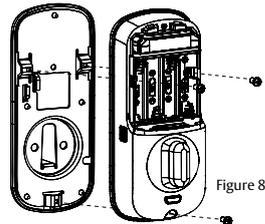

Figure 8
8. Install and secure using (3) M4 x 8mm pan head screws through the inside escutcheon into the mounting plate (Fig. 8).
9. Insert four (4) AA alkaline batteries. The lock responds with a series of beeps, and a quick flash of all keypad LEDs. When activating the lock for the first time, the lock will adjust for proper handing.